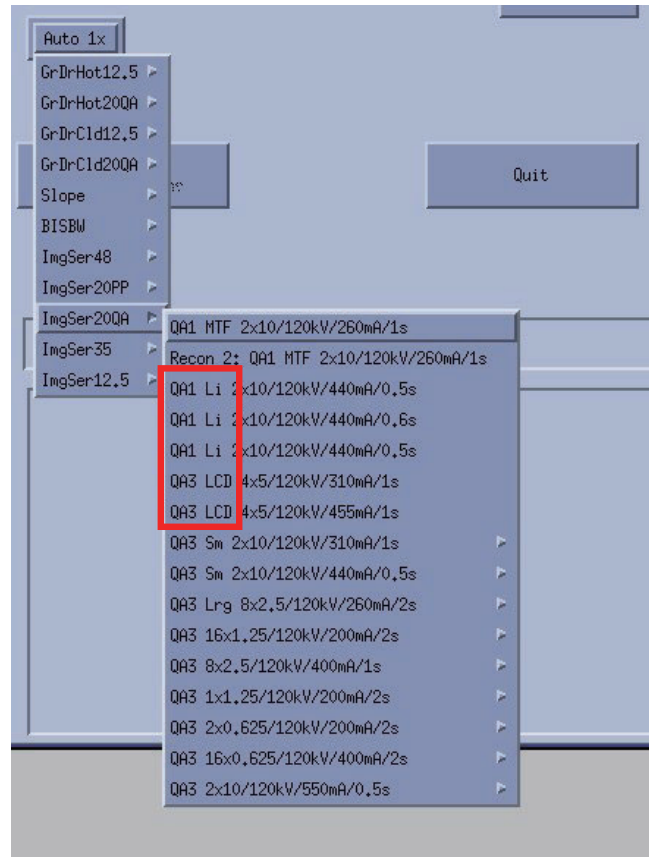

Figure 6-11 Auto 1x without QA2 Protocol
- If Scan Protocol shown as Figure 6-11, please go to Section 7.5.2